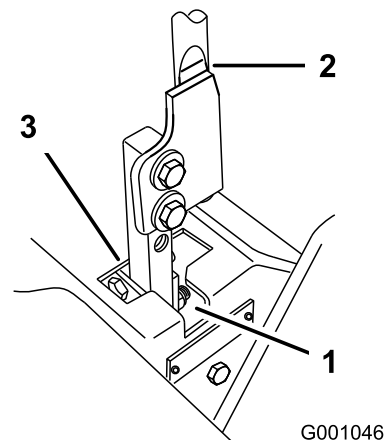

Figure 69
5. Move the lever to the neutral position but not locked (Figure 69).
6. Pull the lever back until the clevis pin (on arm below pivot shaft) contacts the end of the slot (just beginning to put pressure on the spring) (Figure 69).
7. Check where the control lever is relative to notch in console (Figure 69). It should be centered allowing lever to pivot outward to the neutral lock position.